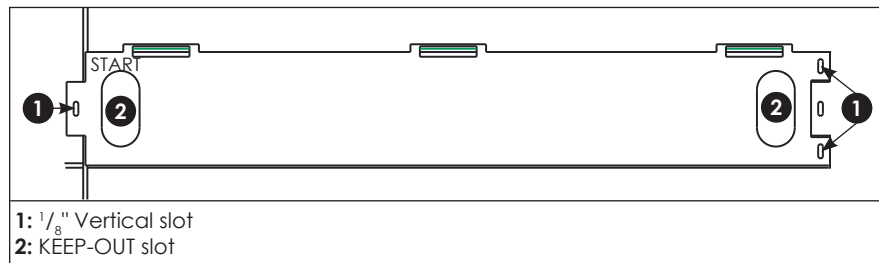

Figure 2: Panel-Interference Jig
- Use a marker to mark the outline of the KEEP-OUT slots and fill in the three 1/8" vertical slots. Refer to **Figure 2**.